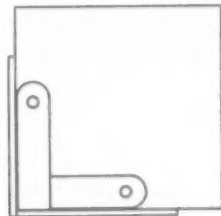

Figure 6 - Assembly jig
17. Use the assembly jig to glue two #11 pieces at right angles. Let assembly cool about 2 minutes and then remove the piece. Get two more #11 pieces and repeat process. Jig is shown in Figure 6.